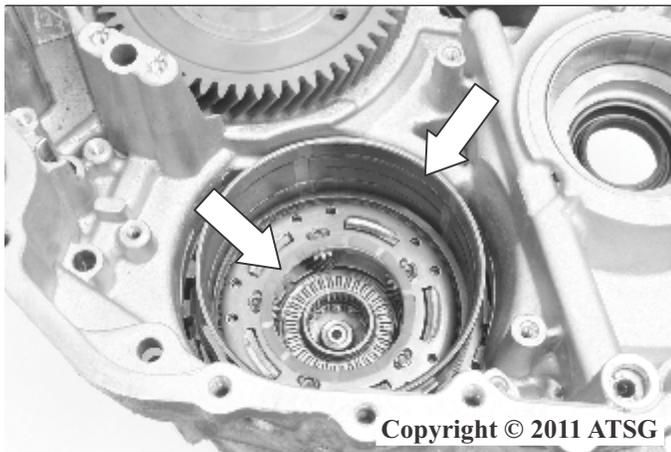

Figure 224
37. Install a new third gear (B4) band into the transmission as shown in Figure 224.
38. Make sure the 1-2/Reverse carrier thrust washer does not become dislodged from the carrier as shown in Figure 224.